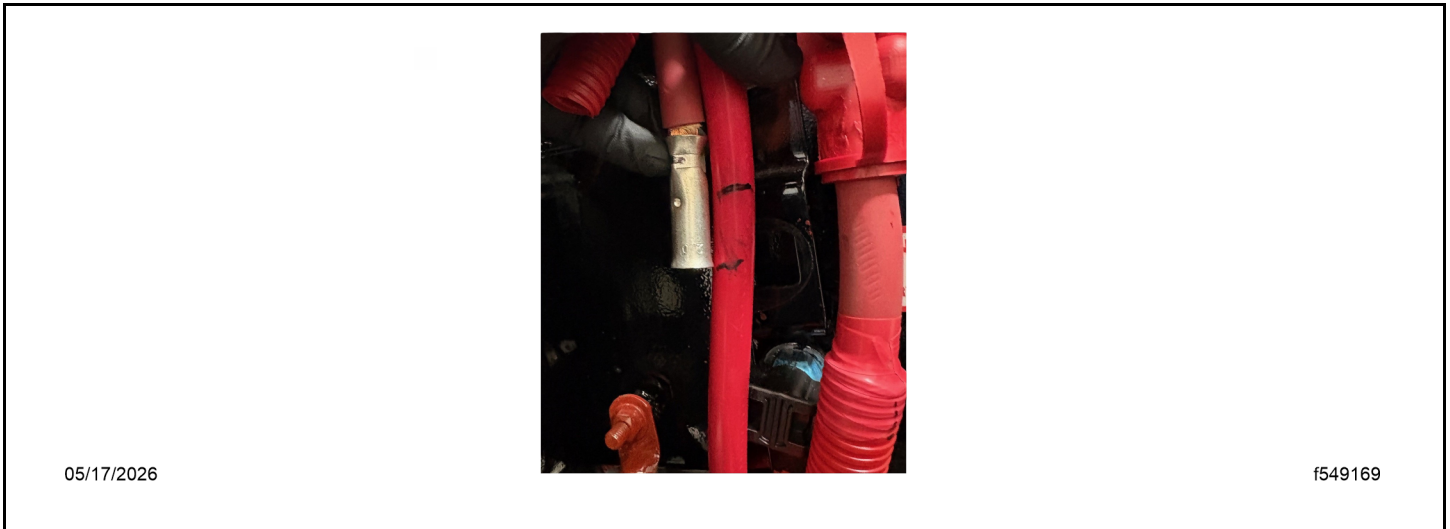

Fig 45, Determining the Starter Cable Length
35. Determine the ideal length for the new starter cable between the starter and butt connector. Cut the cable. See Fig. Fig. 45.